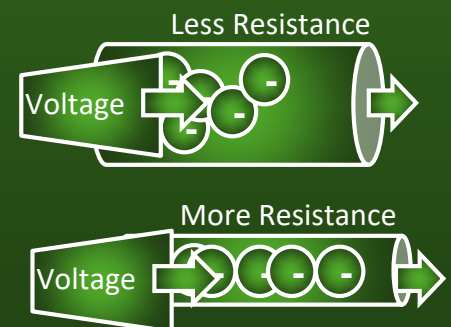

Figure A6.4 Materials with less resistance allow more flow, materials with more resistance allow less flow at one time.
- ❑ Using the water pipe analogy: ideally, all pipes would be large and would easily deliver water. The bigger pipes can allow water to flow easier with less pressure, so there is less resistance to flow (see *Figure A6.4*). In the same way, some materials allow electrons to move more easily than others. These materials have a higher **conductivity** than others and allow electrons to move more easily, while others have a lower conductivity which provides resistance to the flow. The resistance in *Figure A6.2* can be imagined as a clogged pipe.